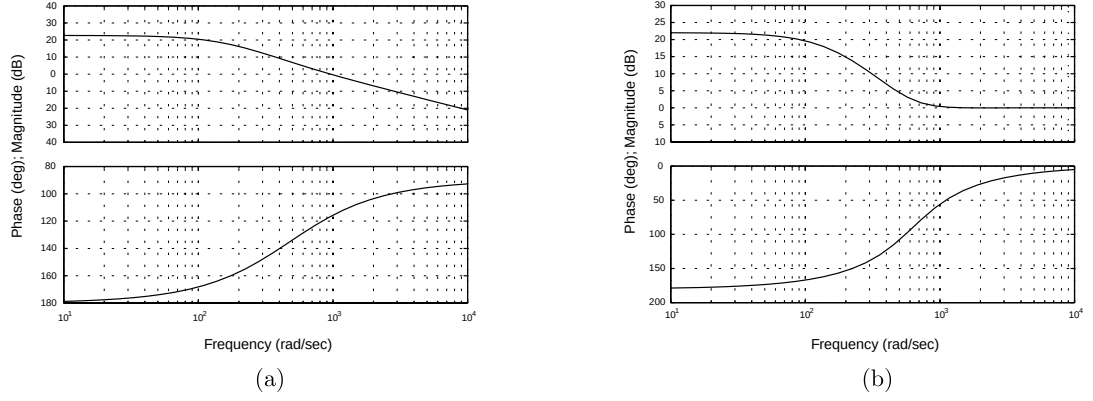

Figure 1: Magnitude and phase plots. (a) Forward loop transfer function. (b) Return difference transfer function.
- (b) (i) **Forward loop transfer function:** This transfer function has two poles and one zero. The DC gain is 13.6331. The high frequency slope is -20dB/decade . The phase starts at -180° at low frequencies and reaches -90° at high frequencies. The phase increases due to the zero. The forward loop transfer function bode plot is shown in Figure 1(a).
- (ii) **Return difference transfer function:** This transfer function has 2 poles and 2 zeros. The gain is constant in the low and high frequency ranges. The -40dB/decade is contributed by the poles and the $+40\text{dB/decade}$ by the zeros. The phase is -180° at low frequencies because the poles contribute -180° (due to the unstable pole) and there is no phase contribution by the zeros in this range. At high frequencies, the 2 zeros contribute $+180^\circ$. This cancels out the -180° contribution of the poles resulting in a zero phase. The return difference transfer function bode plot is shown in Figure 1(b).